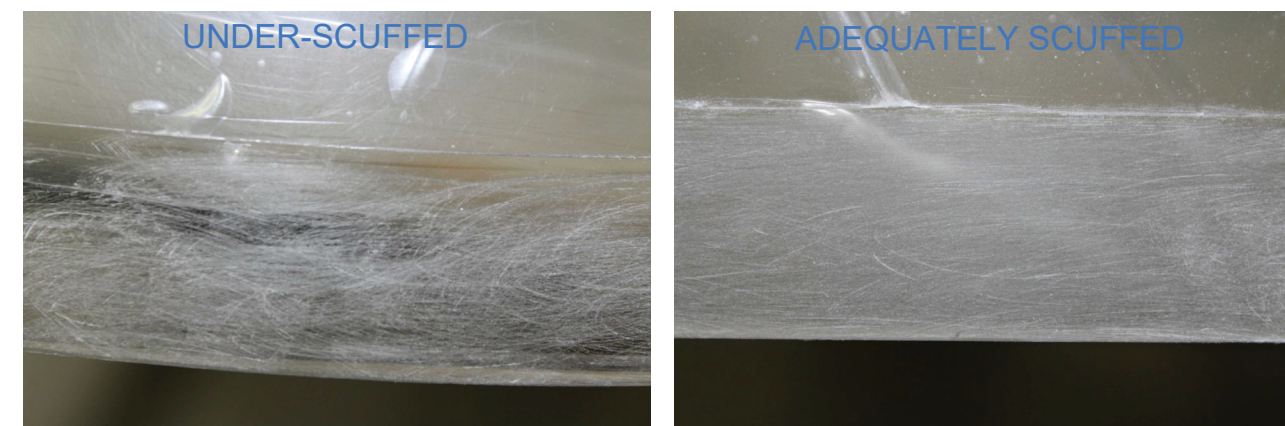

FIGURE 4: SCUFFING
Step 13: Use 80 grit sandpaper to scuff the canopy skin and canopy within the shape of the canopy fairing as defined by the electrical tape. Scuff until there is no trace of reflection when viewed at a low angle, looking toward a light source. This level of scuffing will ensure a good bonding surface for the canopy fairing. See Figure 4.